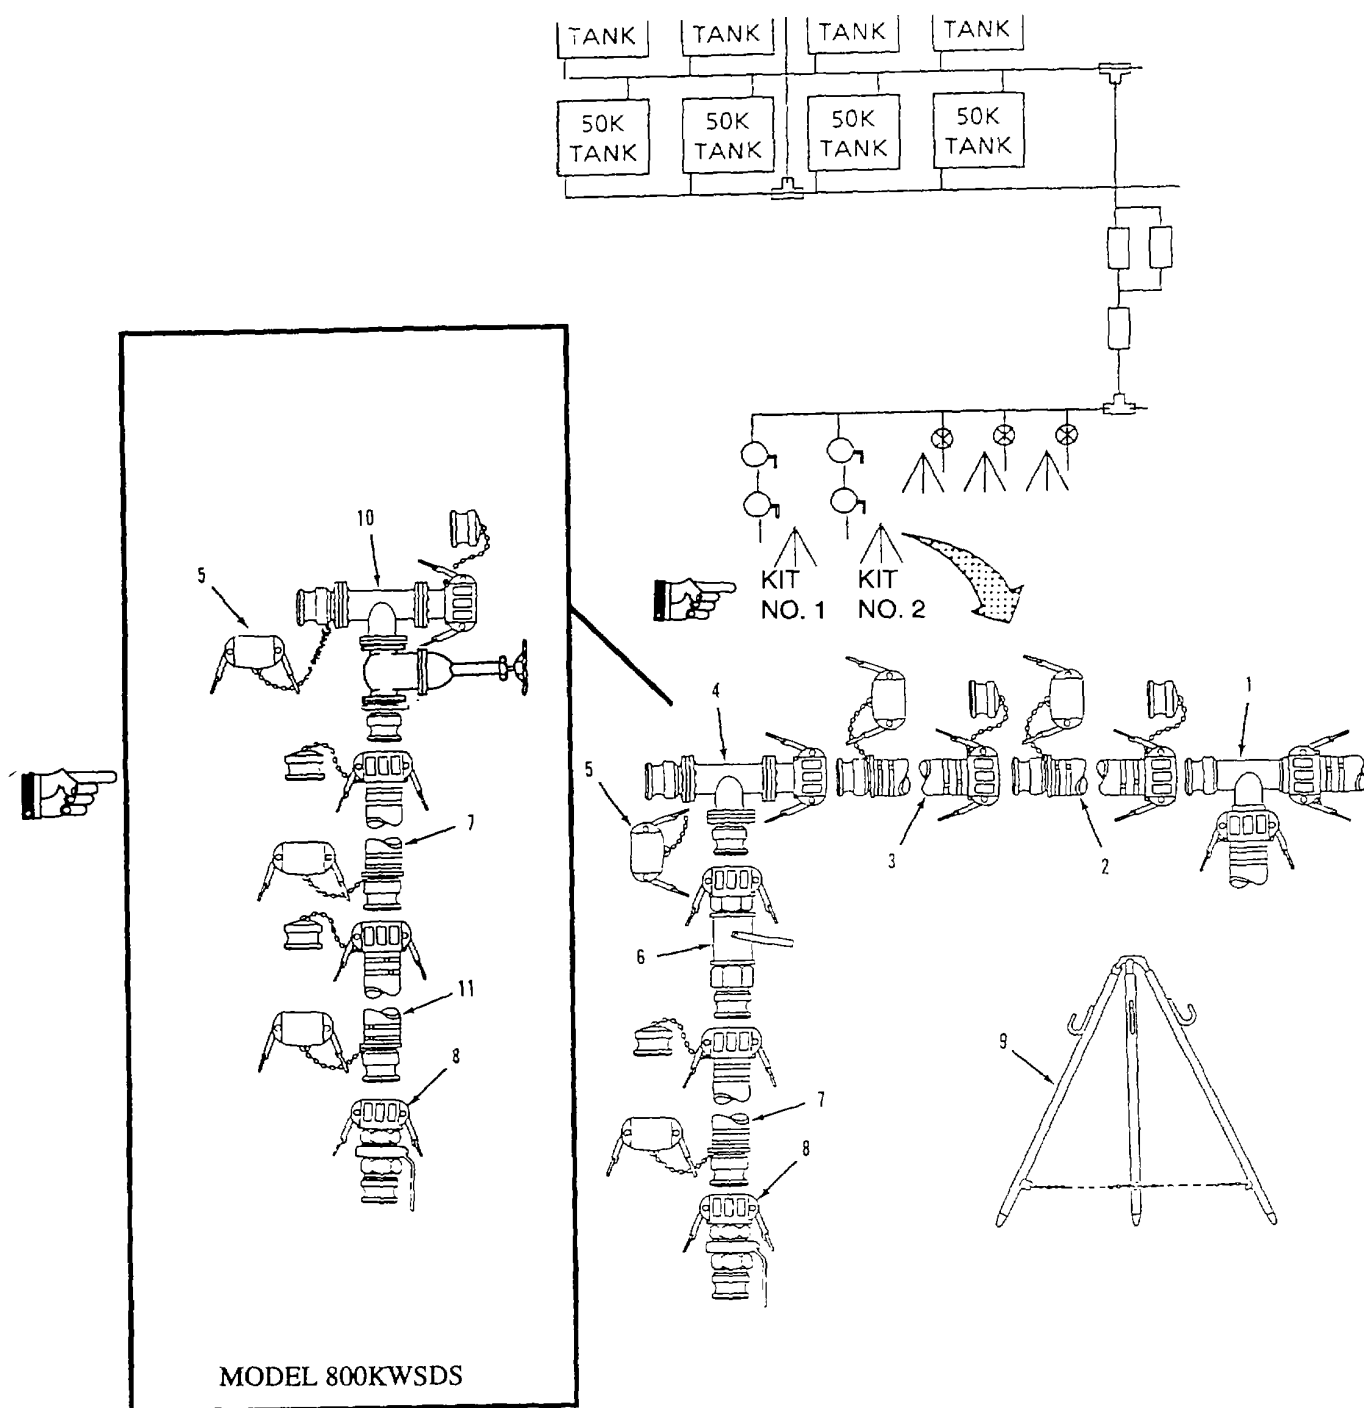

Figure 2-23. 4-Inch Hose Connection Kit Assembly.
- p. Assemble 4-Inch Hose Connection Kits. Refer to figure 2-23.
- Do steps (2) through (5) and (10) through (12) below to assemble a 4-inch hose connection kit that uses a quick acting valve (figure 2-23, item 6).
- Do steps (6) through (12) below to assemble a 4-inch hose connection kit that uses the tee and gate valve assembly (figure 2-23, item 10) and an additional hose (item 11).
- (2) Connect tee (4) to 20 foot discharge hose (3).
- (3) Connect quick acting valve (6) to tee (4).
- (4) Connect 20 foot discharge hose (7) to quick acting valve (6).
- (5) Connect butterfly valve (8) to 20 foot discharge hose (7).
- (6) Connect tee and gate valve assembly (10) to discharge hose (3).
- (7) Connect 20 foot discharge hose (7) to tee and gate valve assembly (10).
- (8) Connect 20 foot suction hose (11) to discharge hose (7).
- (9) Connect butterfly valve (8) to 20 foot suction hose (11).
- (10) Unfold nozzle stand assembly (9) and attach butterfly valve (8) to bracket on stand.
- (11) Repeat applicable steps above to assemble kit no. 1.